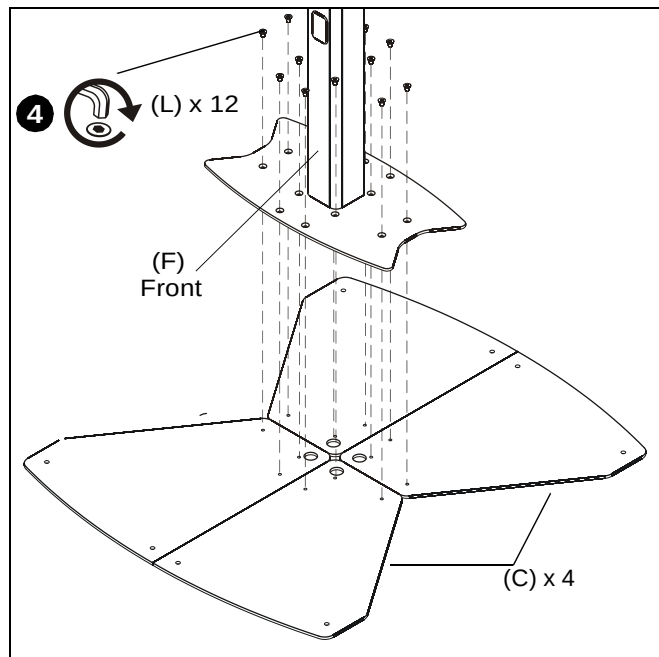

Figure 6
- Place top base section and center post assembly on top of the four base pieces. (See Figure 6)
- Fasten lower base pieces to top base section and center post assembly using twelve 5/16-18 x 1/2" flat head cap screws (L). (See Figure 6)